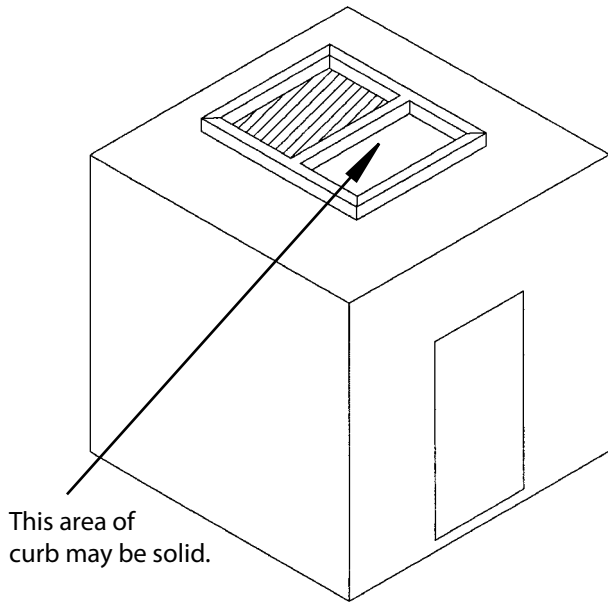

Figure 1. Curb placed on roof of walk-in cooler.
2. Apply silicone caulk around the perimeter of roof opening. Place the curb on roof of cooler. It is recommended that the curb be fastened to the roof panels using non-conductive bolts or insulating the bolt heads. Bolt heads should be countersunk or low profile to prevent contact with the PRO3 system. (See Figure 1, page 7) Check the top of the curb with a level. PRO3 units require a surface that is within 1° of level or better and no more than a 5/8" drop per 3 feet (17mm drop per meter).